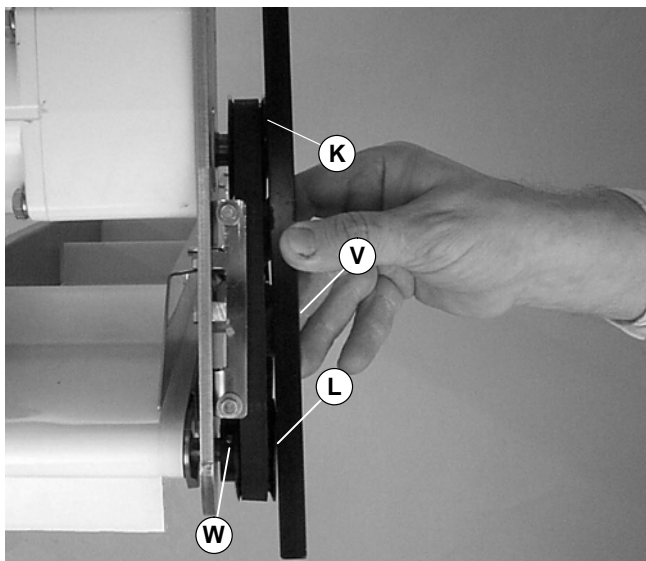

Figure 6
- Using a straight edge (V of Figure 6), align driven pulley (L) with drive pulley (K). Tighten driven pulley set screws (W).